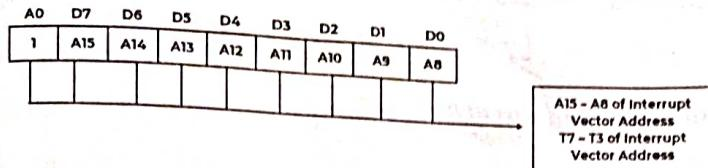

Figure 3.5: ICW2
- Figure 3.5 shows the Initialization command Word 2 (ICW2).